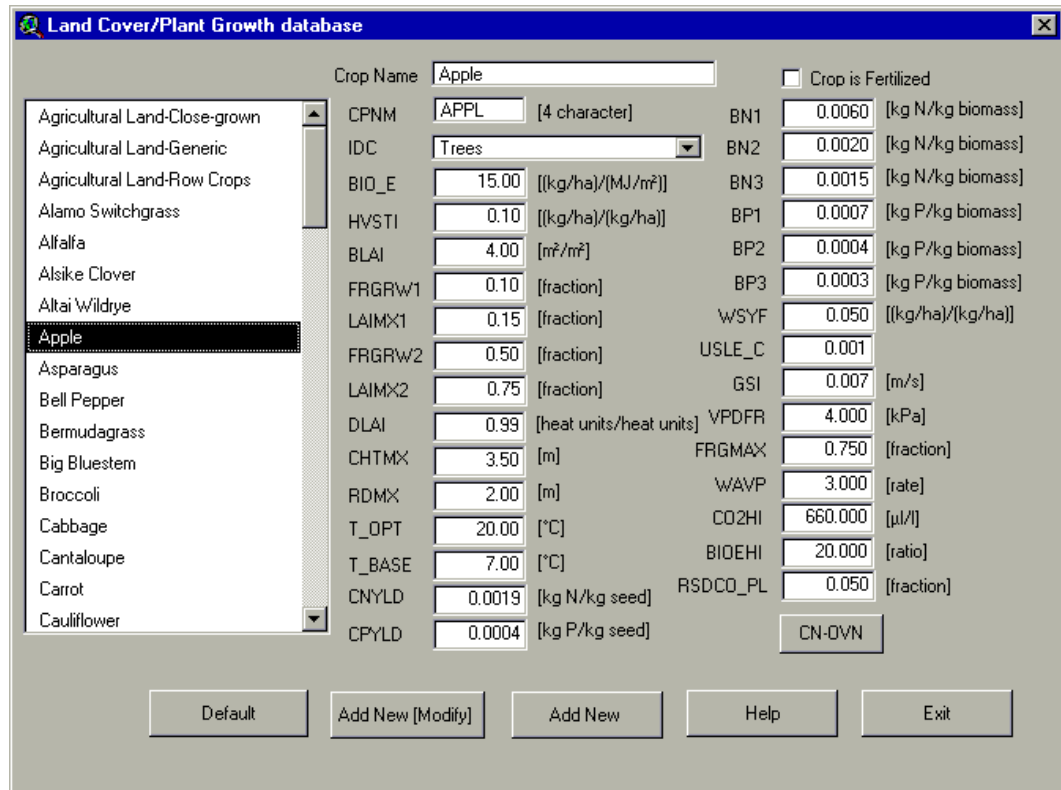

Figure 14.29
- b. The data for the land cover will be displayed (Figures 14.29). A complete description of the parameters is provided in the *Soil and Water Assessment Tool User's Manual, Version 2000, Chapter 14.*